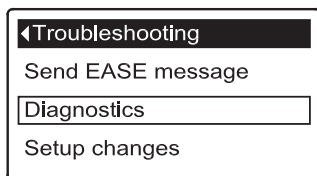

FIG. 88
2. To display the Diagnostics screen from any of the rolling status screens (when an error code is not displayed), press the SELECT (O) button to display the **Main menu**.
4. Press the SELECT (O) button to display the Advanced settings menu.
6. Press the SELECT (O) button to display the Troubleshooting menu (See Figure 88).
1. From any of the rolling status screens, press the SELECT (O) button to display the **Main menu**.
3. Press the SELECT (O) button to display the Advanced settings menu.
5. Press the SELECT (O) button to display the Troubleshooting menu (See Figure 88).
- **Cancel** will return to the Troubleshooting menu (Figure 88).
9. Press the SELECT (O) button.